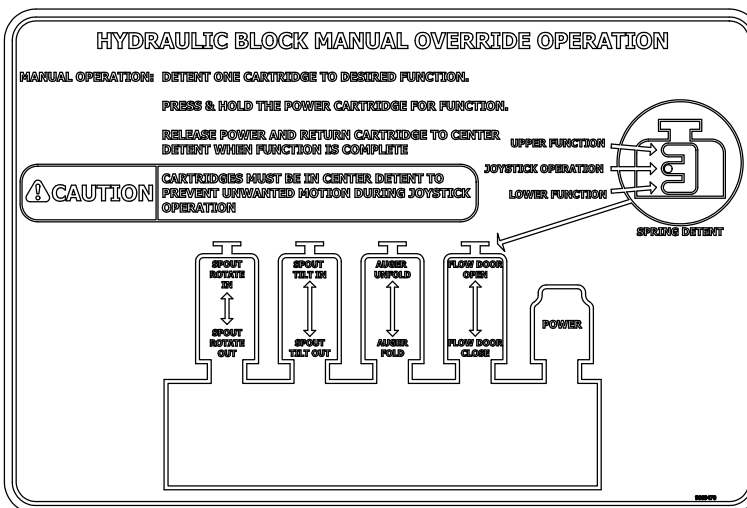

FIG. 3-9
1. Connect the red wire from power harness (9008402) to a key switched +12VDC power supply. (FIG. 3-9)
2. Connect the white wire from power harness (9008402) to ground. (FIG. 3-9)